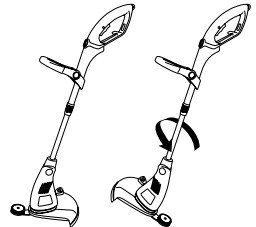

Fig. 8
- Press the button (Fig.8a), turn the handle 180°, release the button and make sure the handle has remained firmly secured in position (Fig. 8).